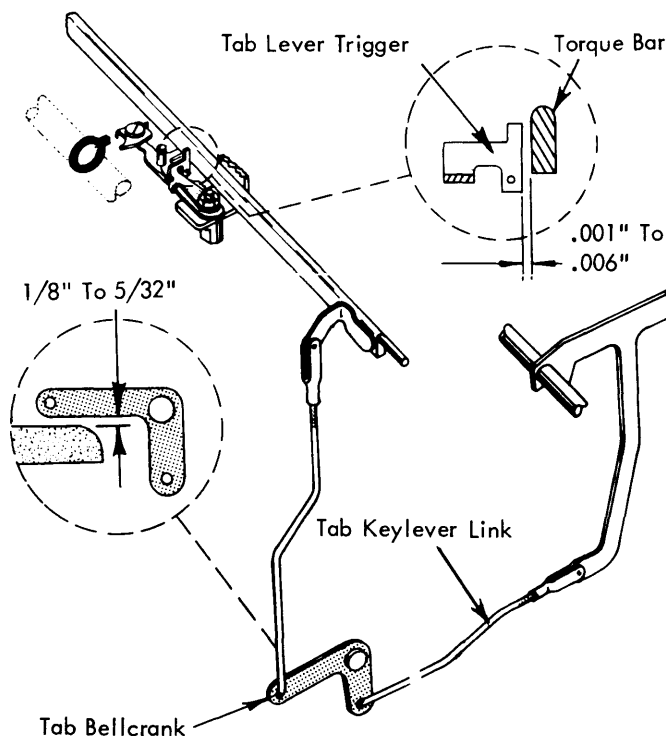

FIGURE 165. Tab Linkage Adjustment
- a. For the best leverage, the tab keylever link should be adjusted for a rest position clearance of $1/8$ " to $5/32$ " between the powerframe and the long arm of the tab bellcrank (Fig. 165).
- b. For minimum lost motion adjust the tab bellcrank so that a rest position clearance of $.001$ " to $.006$ " exists between the tab torque bar and the lug of the tab lever trigger (Fig. 165).